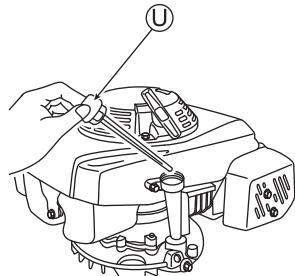

Fig. 8
- 1 Remove Oil tank cap (U), pull out the oil gauge, and then insert it not screwing it. (See Fig .8)